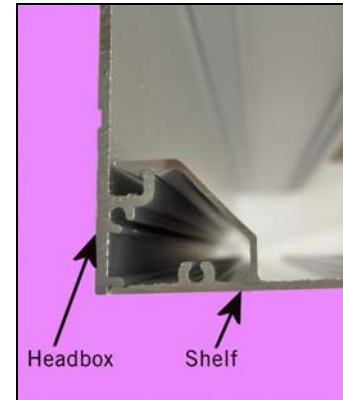

Figure 28 Shelf on Headbox
- Rotate the shelf up and snap the lip of the shelf over the shelf hook on the headbox (Figure 28).